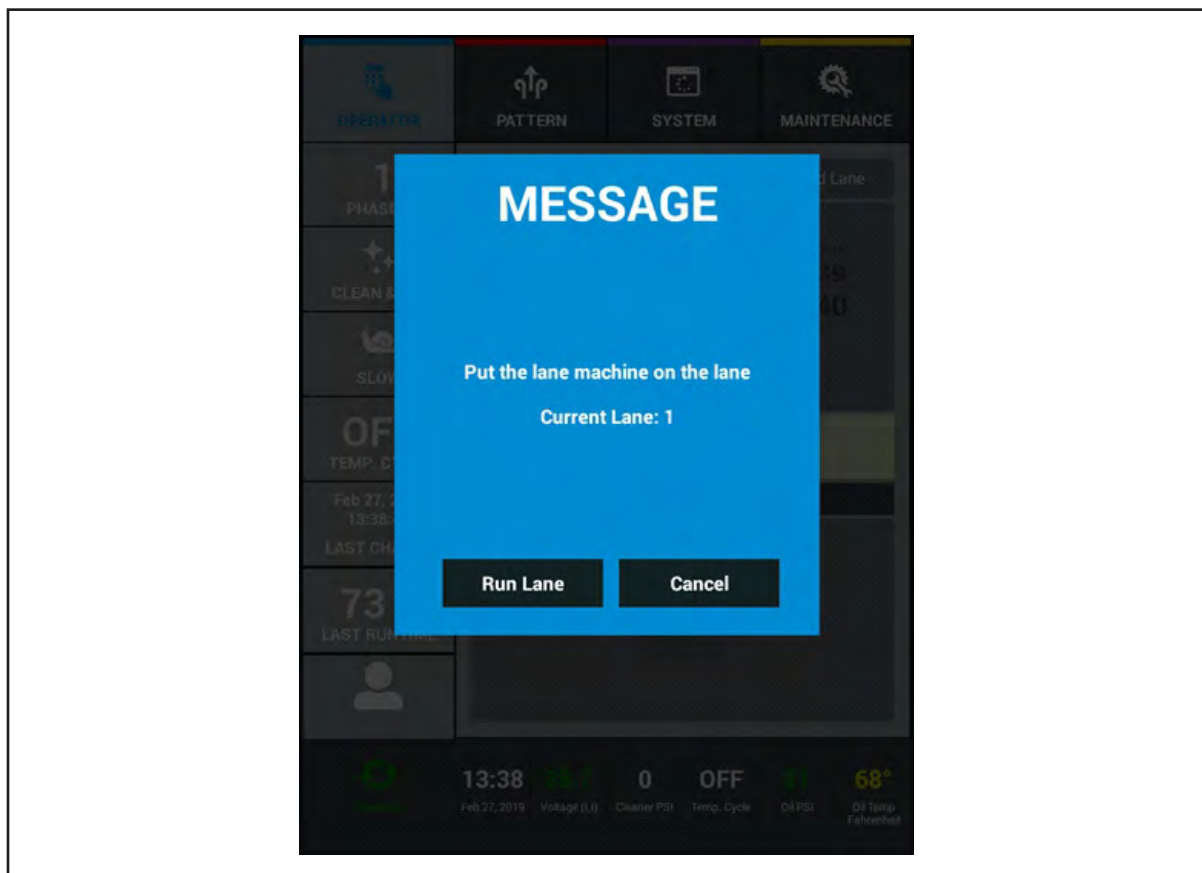

Figure 7-1. Put the Lane Machine on the Lane
- f. The operator screen displays “PUT THE MACHINE ON THE LANE” when the machine is ready to begin operation. Refer to *Figure 7-1*.